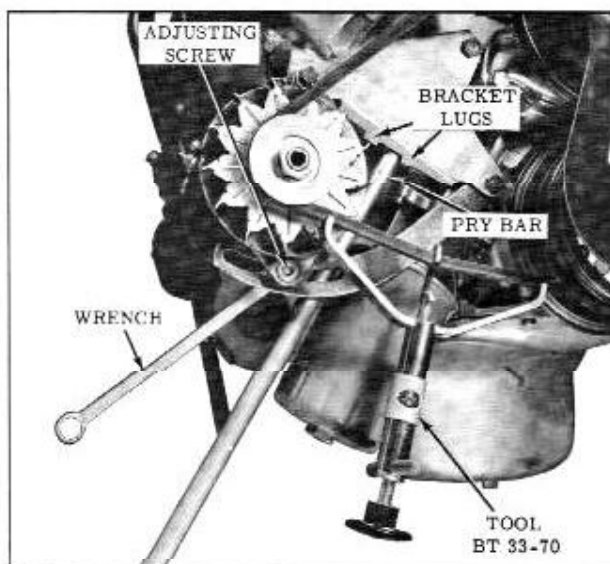

Fig. 13-19 Adjusting Generator Belt
5. Pivot the generator away from the engine by prying between the generator body and the lugs or the generator bracket to place tension on the belt. (Fig. 13-19)